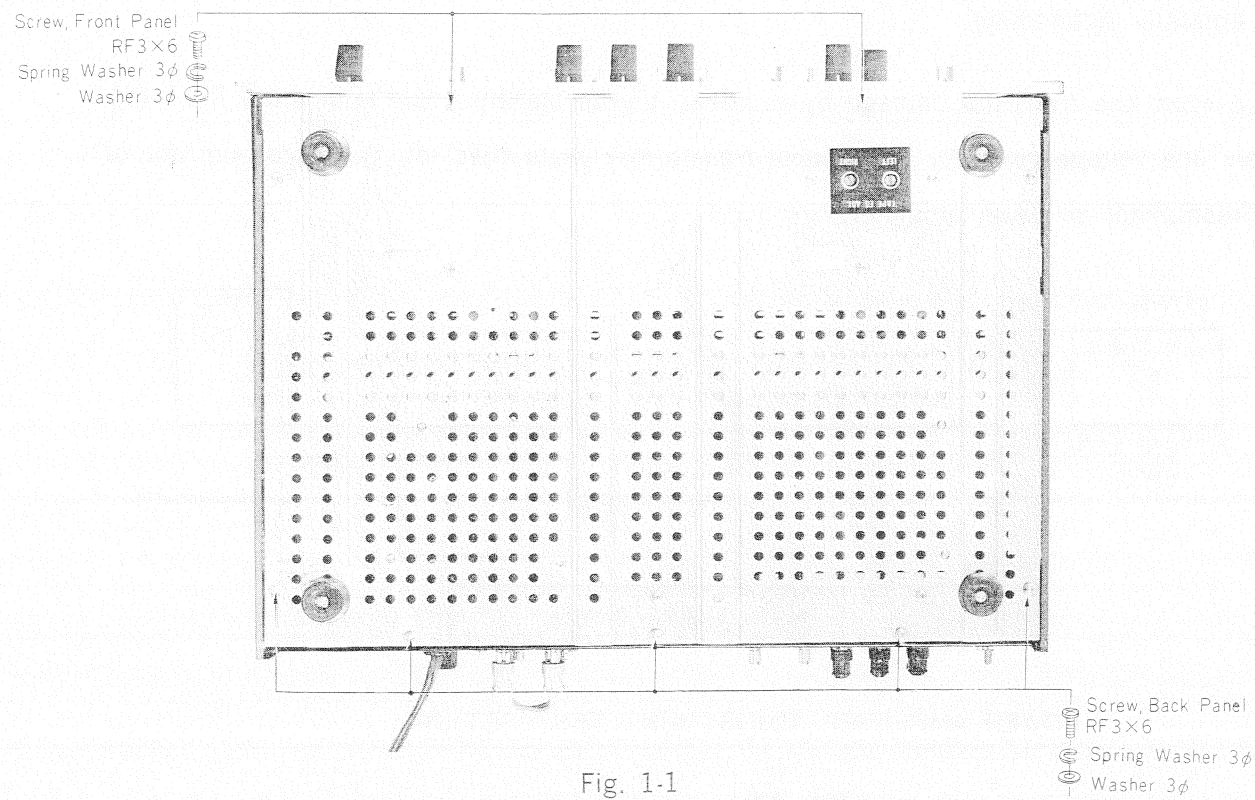

Fig. 1-1
- (b) Remove five screws (+RF 3×6) from bottom of chassis to release the back panel section as shown in Fig. 1-1.
- (a) After taking the chassis cover off, remove the two screws (+RF 3×6) from bottom of the chassis as shown in Fig. 1-1.